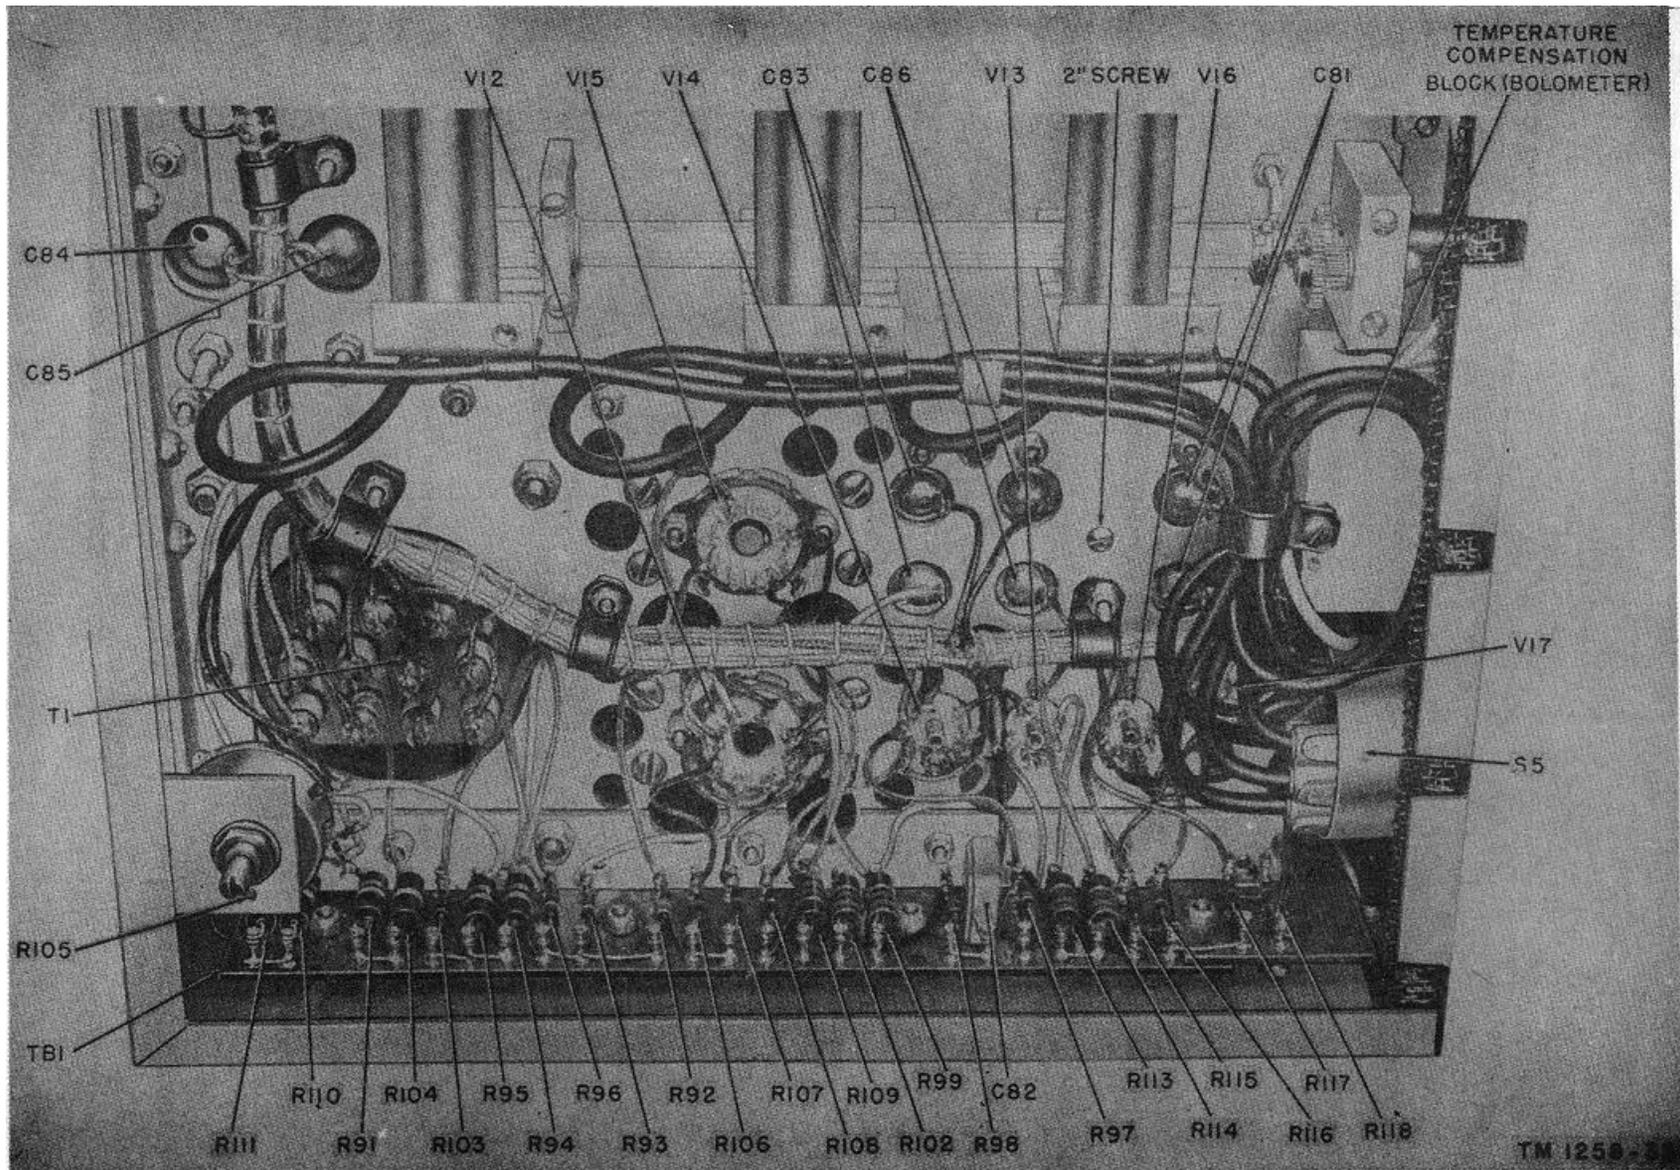

Figure 36. Power supply section, bottom view.
- (1) Remove the two 2-inch screws which secure this assembly to the power chassis (fig. 36).
- (2) Remove the knob from S2 and the two adjacent screws which hold the assembly to the front panel.